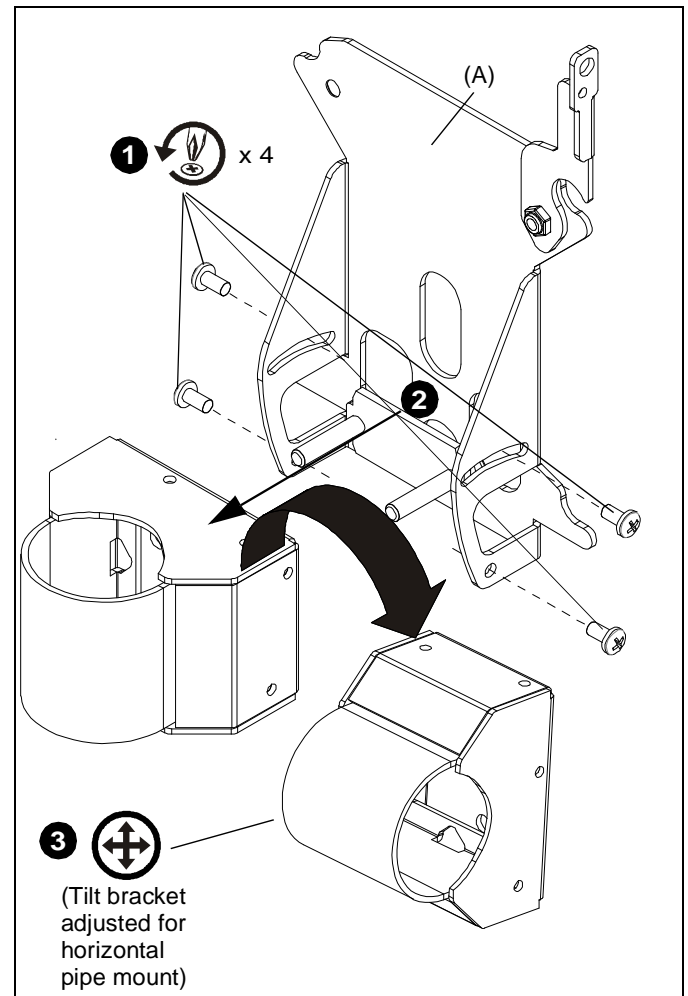

Figure 2
1. Remove the four Phillips pan head tapping screws from FSP assembly (A). (See Figure 2)
2. Detach tilt bracket from FSP (A). (See Figure 2)
3. Reposition tilt bracket for horizontal pipe/pole mounting. (See Figure 2)